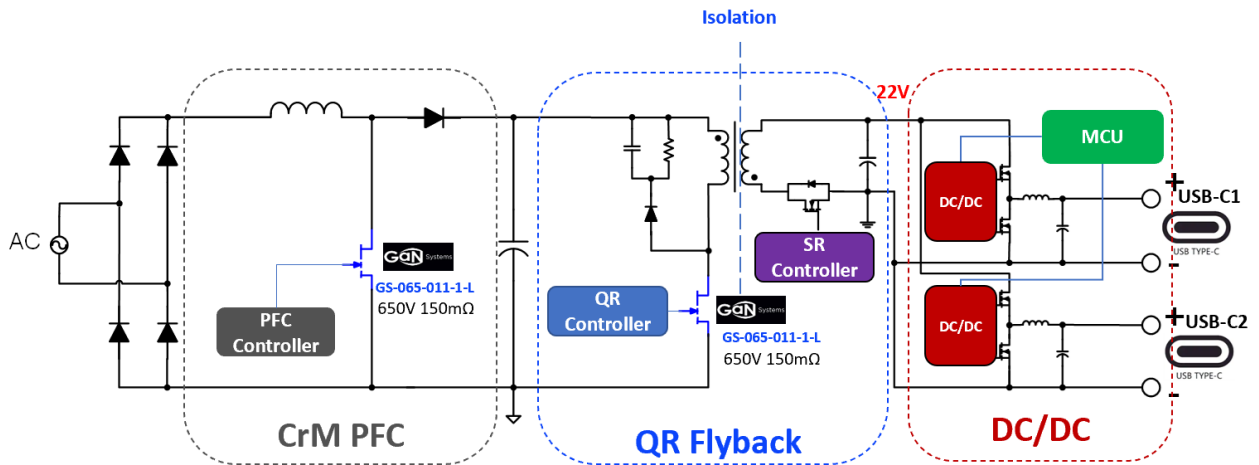

Figure 1. Simplified system block diagram for GS-EVM-CHG-100WPFCQR-GS1 reference design
As shown in Figure 1, the reference design includes three main power conversion stages: Power Factor Correction (PFC), Quasi-Resonant (QR) Flyback, and Buck DC/DC. The primary side and secondary side include:
1. On the primary side, there is a front-end Critical Mode (CrM) PFC stage to achieve high power factor and meet the IEC61000-3-2 THD standard. A galvanic isolation synchronous rectification (SR) QR Flyback is used to achieve 22V DC Vbus output.